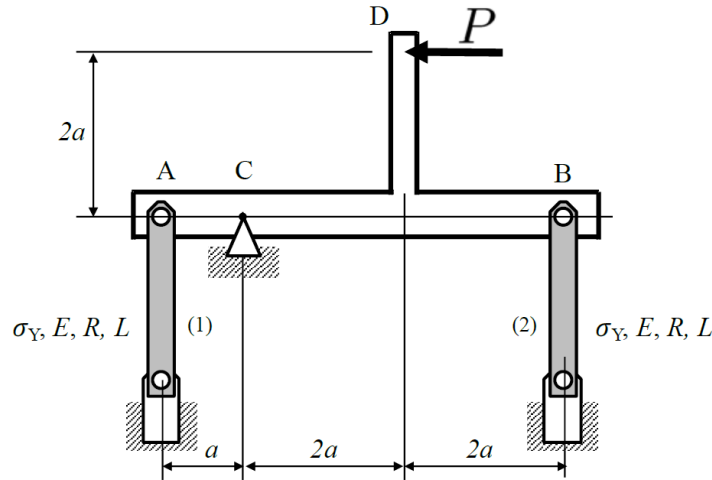

Figure 1
Two elastic elements (1) and (2) are connected to the ends A and B of a rigid inverted T-shaped bar ABCD. Each elastic member has a Young's modulus E , circular cross section of radius R , length L , and yield stress σ_Y . The rigid bar is pinned at C and a load P is applied at end D, as shown in Figure 1.